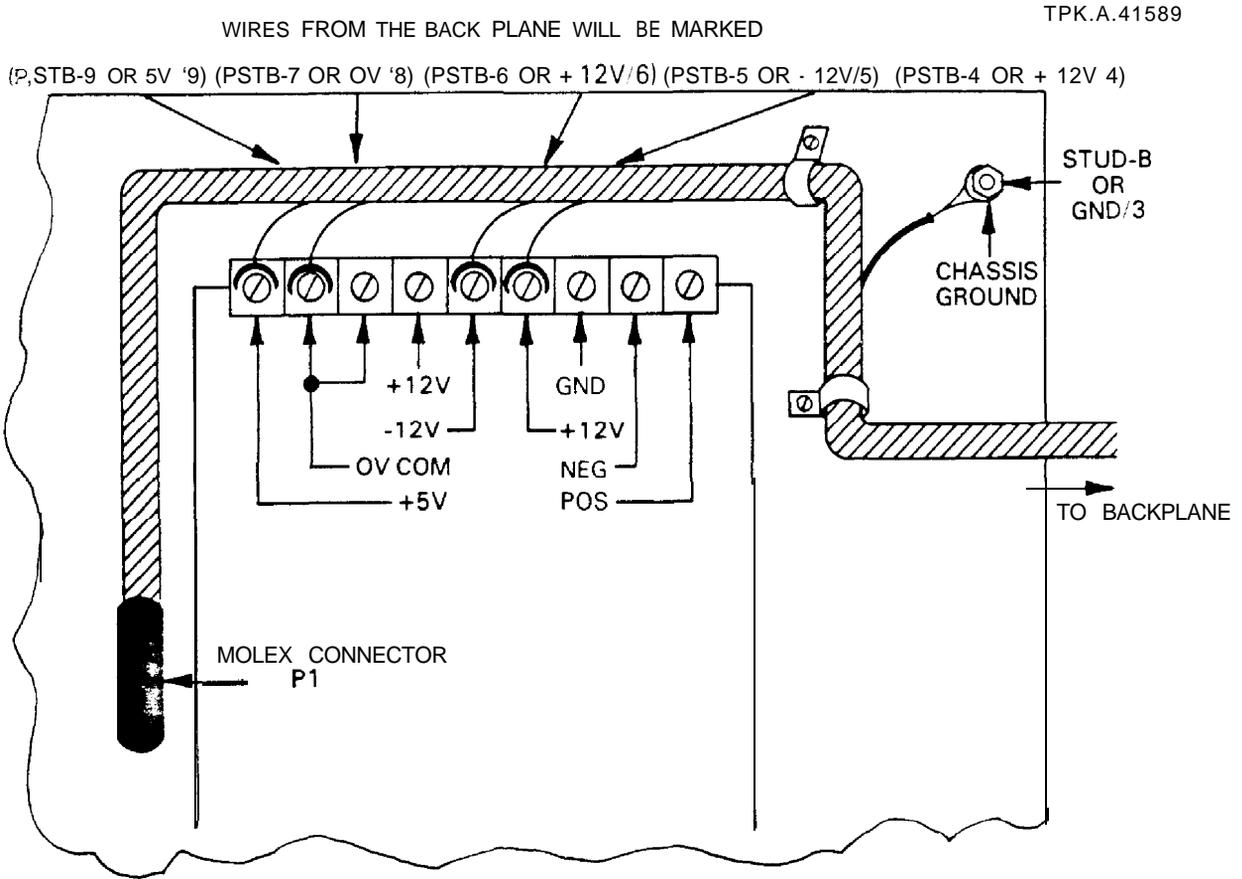

FIGURE 2. POWER SUPPLY EXTERNAL WIRING DIAGRAM
10. Take the replacement power supply and attach the wires as shown in Figure 2. Be sure to connect the 18-pin molex connector (P1) to the power supply. Attach the wire clamp on the upper stud of the power supply frame, or if there is a clamp already there, wrap the wires in it.